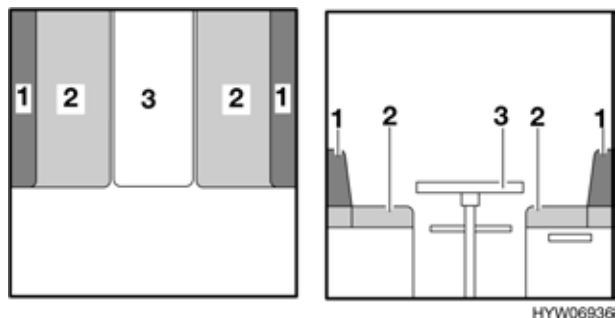

Fig. 94 Prior to conversion
- Slightly lift the front of the table-top (Fig. 94,3).